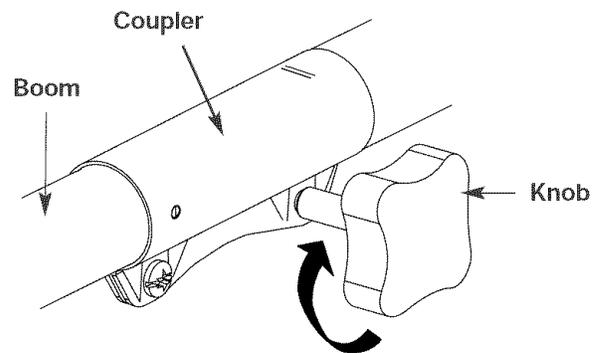

Fig. 11
4. Turn the knob clockwise to tighten (Fig. 11).